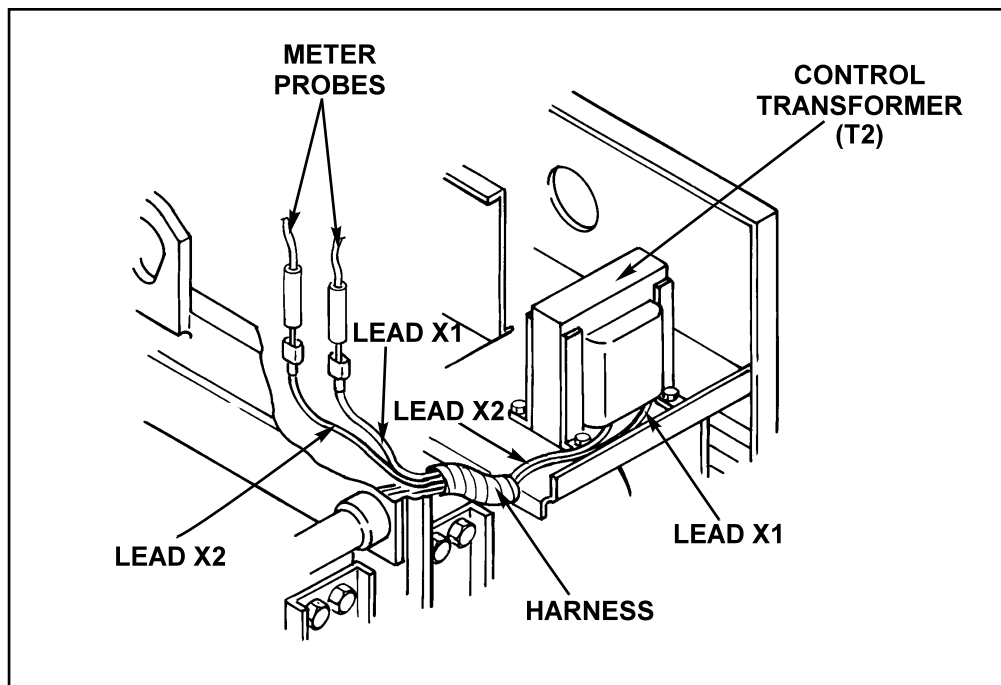

FIGURE F.2 - Control Transformer X1 and X2 Test Points
5. Locate Control Transformer leads X1 and X2 at in line connectors. See Figure F.2.